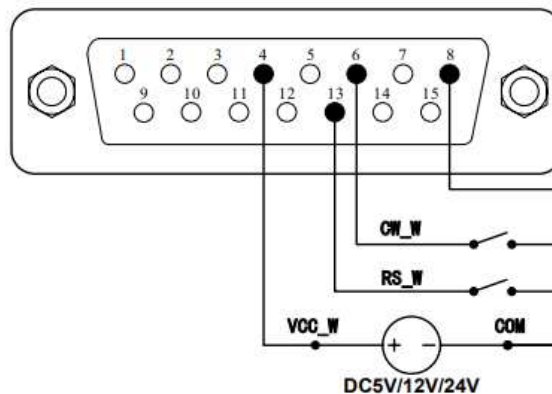
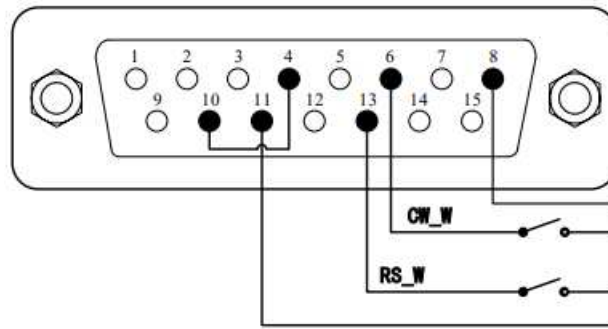

Figure 13 – Shows the wiring diagram for the Level 2 Control Mode using an external power supply.
Figure 14 – Shows the wiring diagram for the Level 2 Control Mode using the internal power supply
2. Connect the DB15 connector according to Figure 13 if using an external power supply, and according to Figure 14 if using the internal power supply